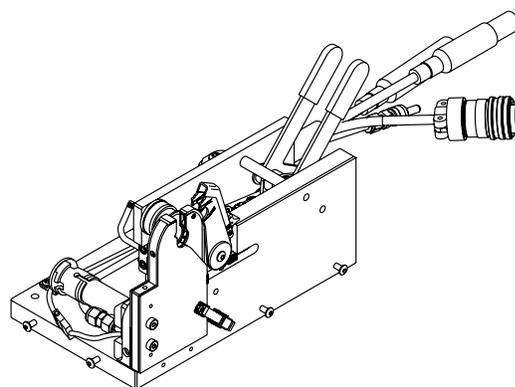

Figure 57 Reinstalling the Side Plates
18. Move the handles from the tool change to the not locked/closed position. See Figure 57.